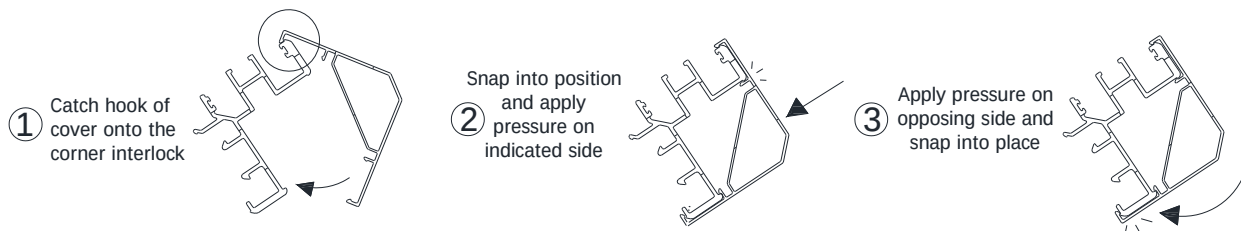

Figure 33
3. When panels are ready to be installed, locate the corner astragal panel and the separately packaged astragal cover (Item 48). Align the cover with the bottom of the astragal and snap into place (Figure 33). Verify the cover is aligned with the top and bottom of the astragal.